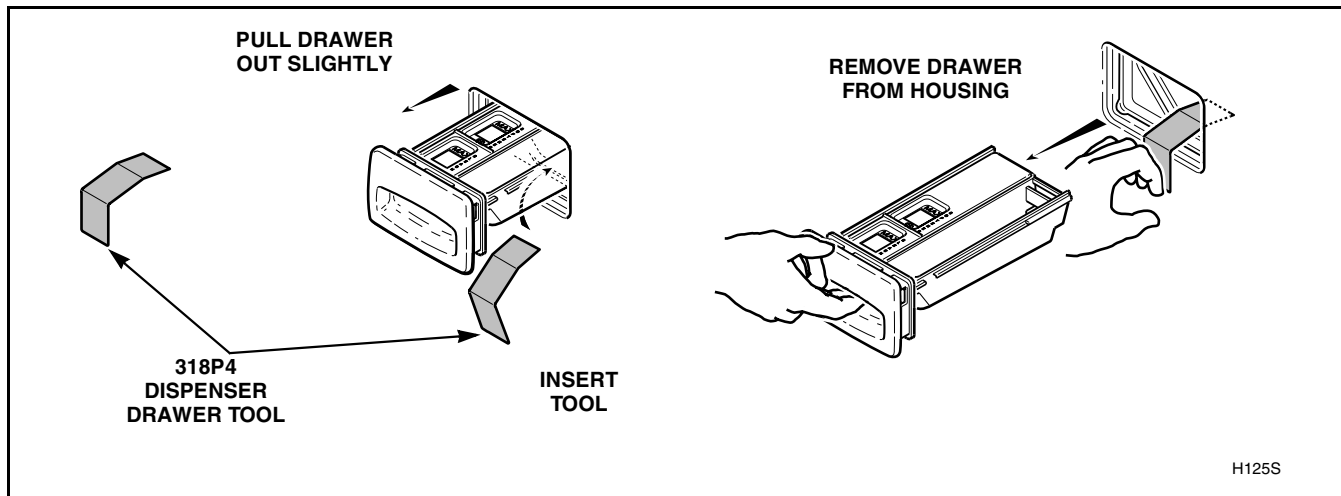

Figure 12
- d. Using the special tool, No. 318P4, remove dispenser drawer. Refer to *Figure 12*.
- c. Using the special tool, No. 318P4, remove dispenser drawer. Refer to Figure 12.